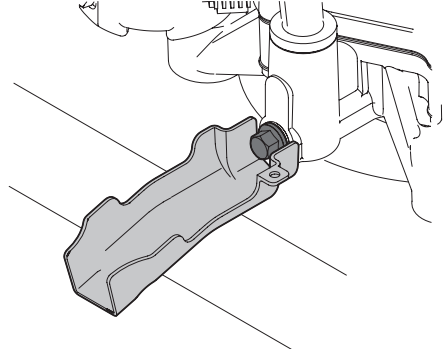

Figure 26
4. Snap the small end of the oil drain sleeve onto the oil sump. See Figure 26.